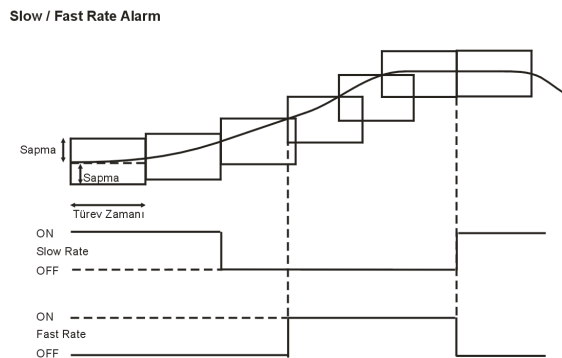

Figure 6.33 Slow Rate and Fast Rate Alarm Forms
- Derivation Time:** Define derivation time for **SLOW** and **FAST RATE** alarms. Please check **Figure 6.33**